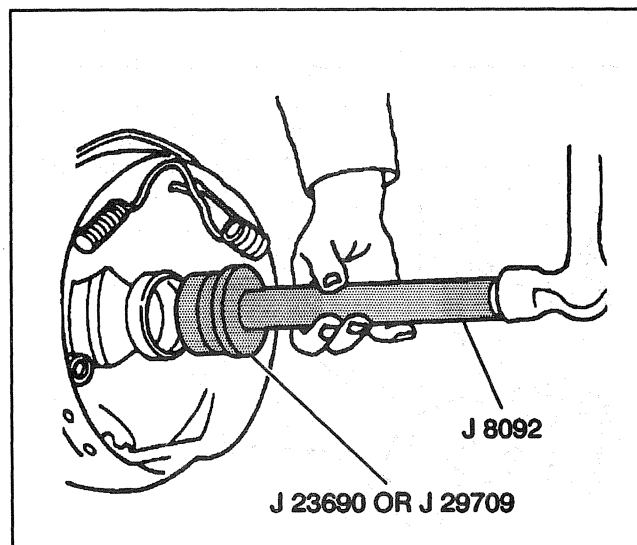

Figure 12—Installing the Wheel Bearing
- Bearing into the axle housing until the tool bottoms against the tube. Refer to Figure 12.